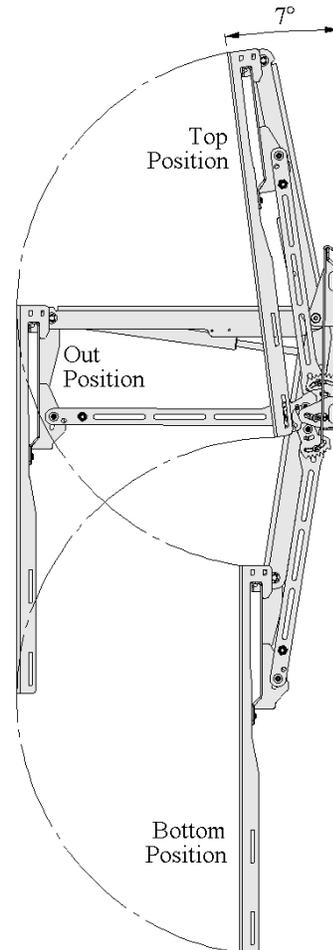

**Figure 1, Mount Overall Size, Television Mounting Hole Pattern Range, Wall Mounting Hole Pattern Range**
- **Note for smaller televisions;** the mount may be wider or taller than the television. If this is the case then the mount may be visible in the top position. See Figure 1
- Allowable television mounting pattern: 6.7in (170mm) to 27.2in (692mm) wide, up to 22.8in (579mm) high. Works with all VESA patterns in that range, See Figure 1
- Product Dimensions: 29.0 x 23.6 x 3.9 inches. See Figure 1